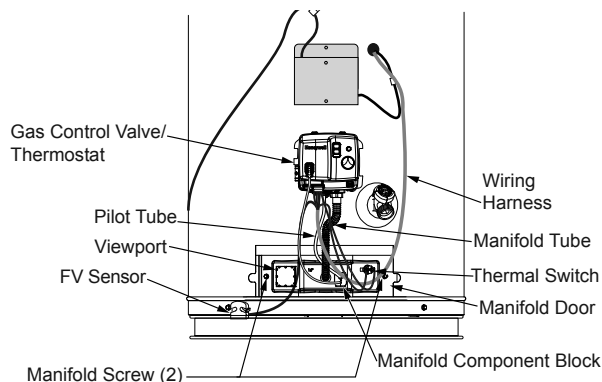

FIGURE 35.
4. Remove the two screws (1/4" nut driver) securing the manifold door assembly to the combustion chamber (Figure 35).